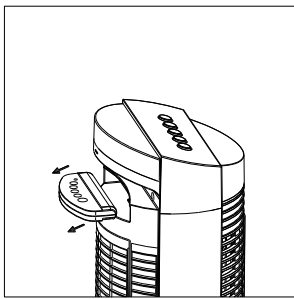

Fig.4
- A. Remove the remote control from the fan. (Fig.4)